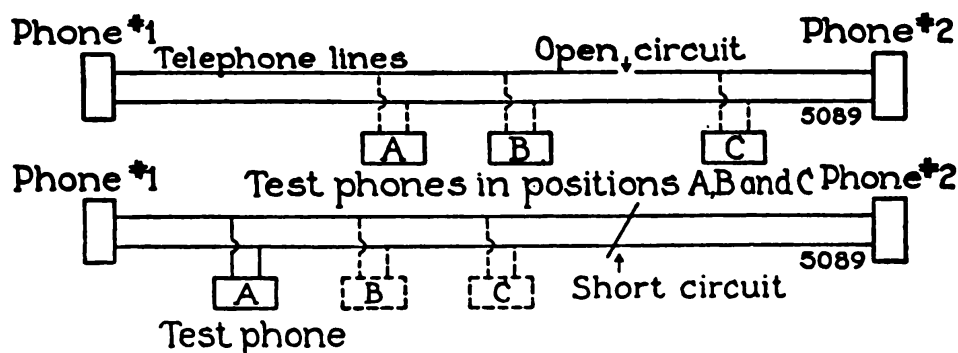

FIGURE 139.—Above: Test for open circuit. Below: Test for short circuit.
(1) Receiver may be unserviceable.
(2) Transmitter in distant telephone may be unserviceable.
(3) Receiver cord may be broken.
Q. Explain the tests indicated by figure 139. *A.* Test No. 1 shows how an open line is located. At positions A and B the tester can talk to telephone No. 1. At position C the tester cannot talk to telephone No. 1, but can talk to telephone No. 2, therefore the open line must lie between positions B and C. Test No. 2 shows how the approximate location of a short circuit may be obtained. As the tester moves from position A toward the short circuit, conversation